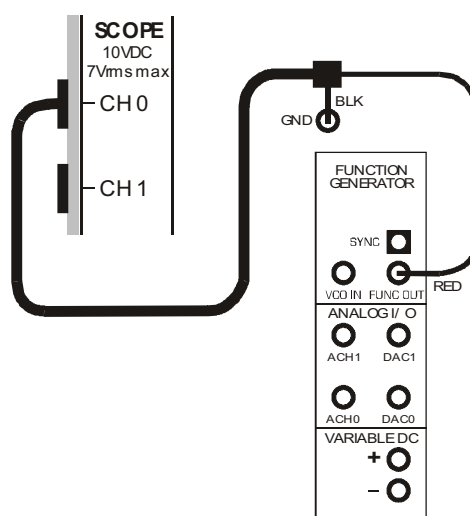

Figure 14
34. To observe the function generator's output, connect the set-up shown in Figure 14 below.